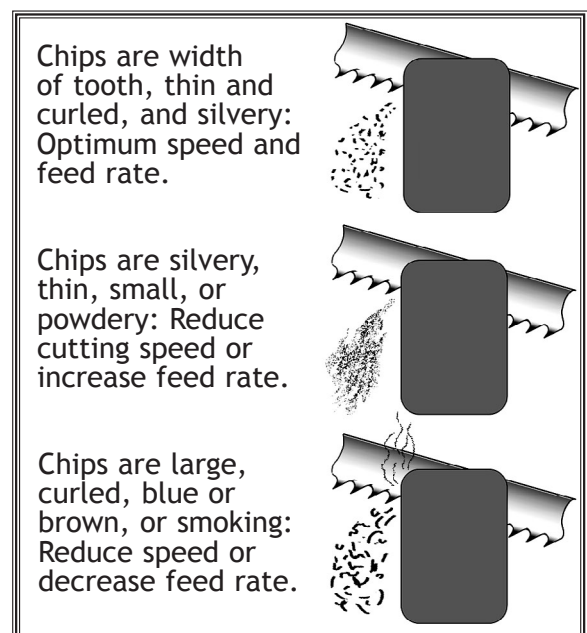

Figure 42. Reading chip characteristics.
7. Observe the chips that exit the cut, and increase or decrease the feed rate according to the chip characteristics (see **Figure 42**).